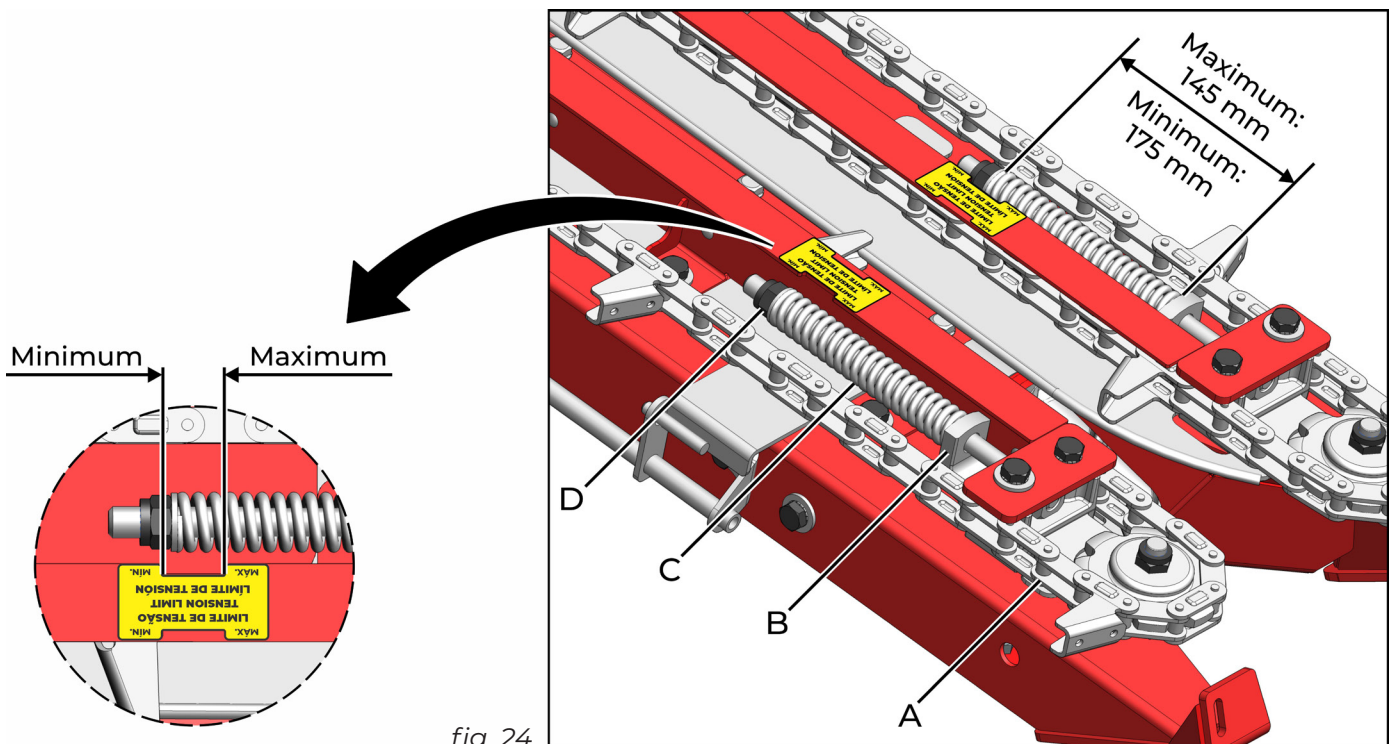

fig. 24
Chain (A) (fig. 24) has a tension that should remain between the minimum and maximum, according to figure 24.